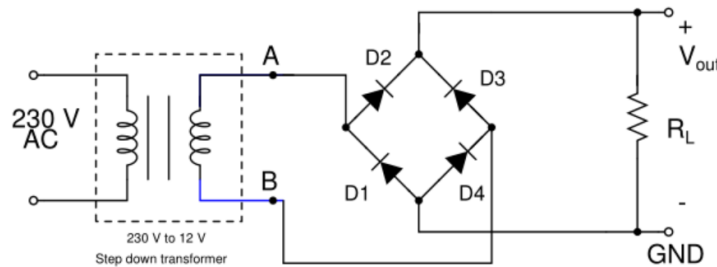
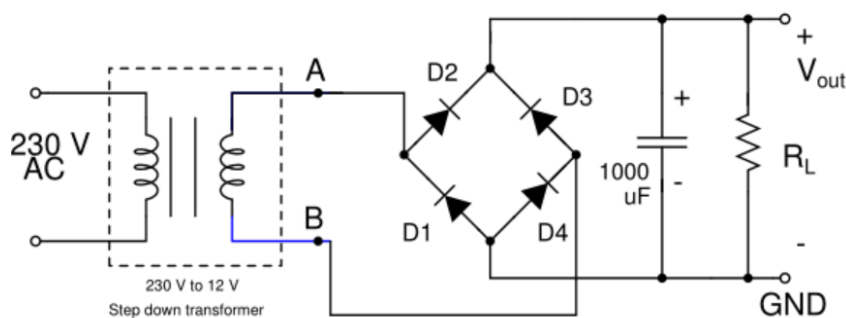

Fig 2.1 Bridge rectifier circuit
Fig 2.2 Bridge rectifier circuit with a capacitor filter
- Caution: Do not try to display V_{AB} by connecting a DSO probe across the terminals A and B.** Note that the GND of the two DSO channels are internally shorted. With the GND connected to the lower terminal of the load, as shown in Fig. 2.1, connecting GND to the transformer secondary outputs (A or B) will short the transformer secondary through one of the diodes.
The bridge rectifier circuit of Fig.2.1 is modified and re-drawn in Fig.2.2 with a large value capacitor (100 μF or 1000 μF) connected across R_L .
- i) Switch-OFF power to the transformer. Modify the circuit of Fig. 2.1 so as to connect the $100\ \mu\text{F}$ electrolytic capacitor C across R_L . **Take extreme care to see that –ve terminal of the electrolytic capacitor is connected to the GND and the +ve terminal to V_{out} .**